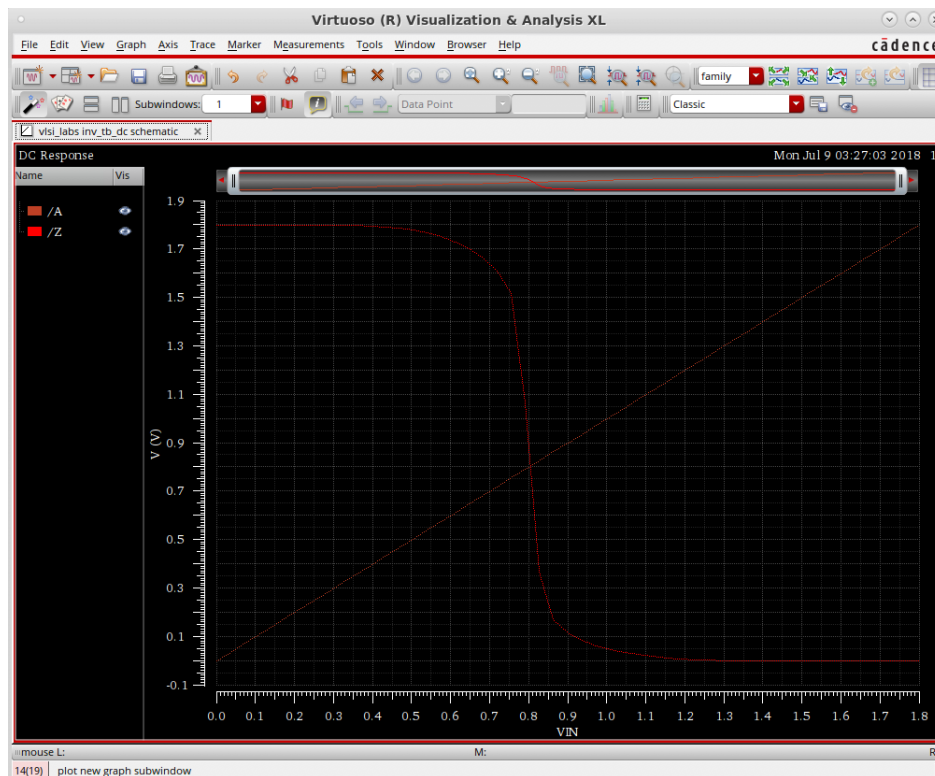

Figure 1.20: Inverter VTC curve.
5. Run the simulation. Your curve should look like Fig. 1.20.